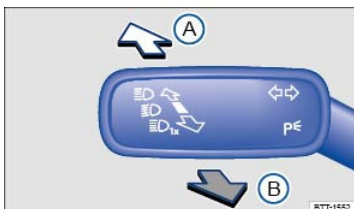

Fig. 88 To the left of the steering wheel: Turn signal and high beam lever.
- Move the turn signal and high beam lever from the center position to the following position ⇒ Fig. 88: